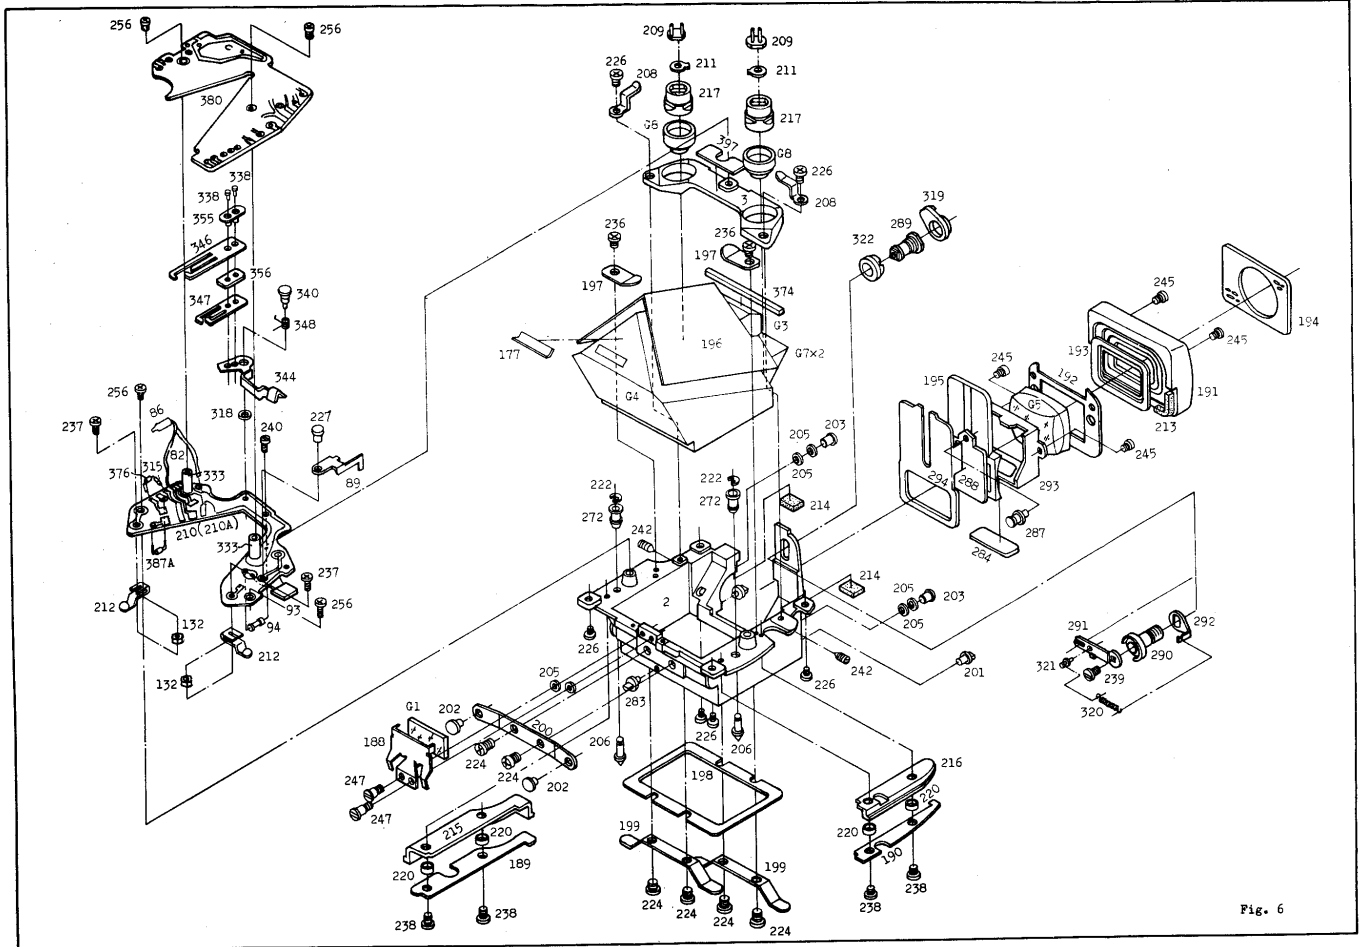

Fig. 6
7.2 T- and F-film unit (Fig.4 and Fig.6)
7. 2 T, Fフィルム (Fig. 4, Fig. 6)